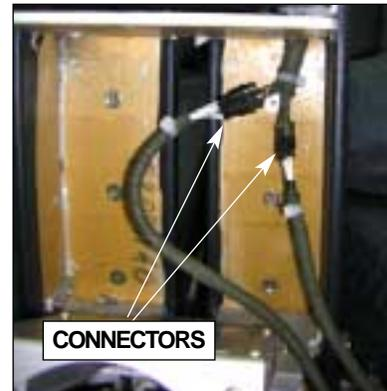

FIG. 307C:
- (5) Remove plastic clamps that fix PCU/audio jack/outlet cables. Unplug PCU/audio jack connectors (see fig. 307C). Free CNT armrest from both cables by passing them through the same endbay to permit its removal.